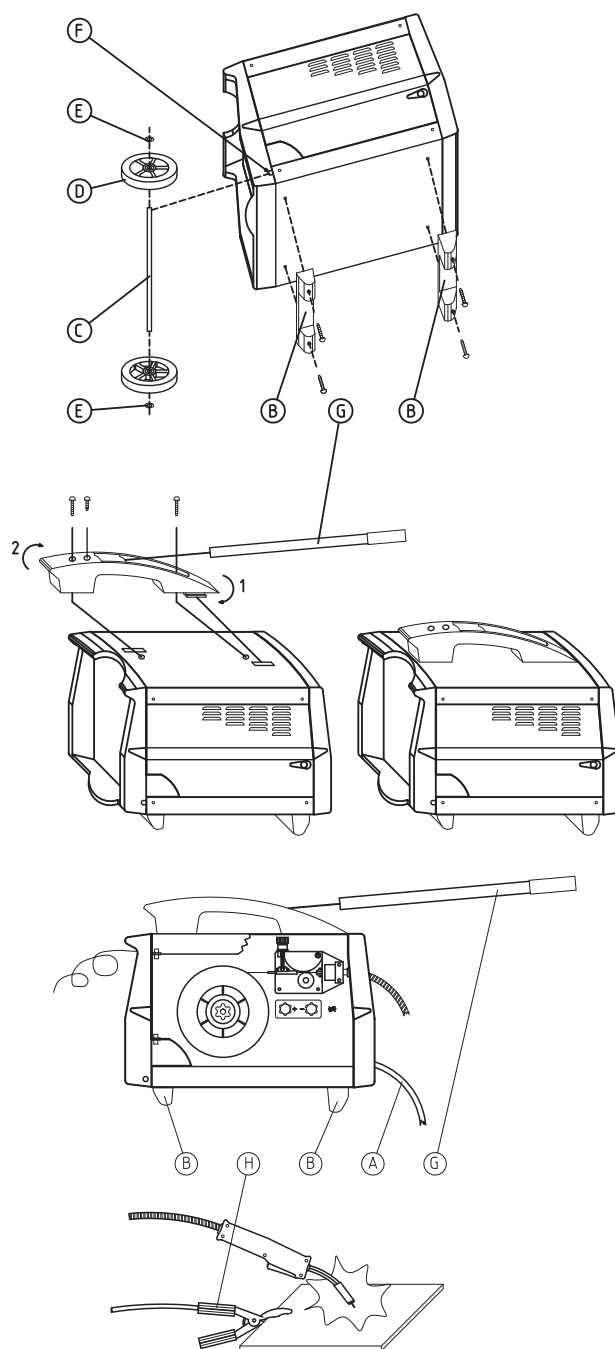

Fig. 1
- Lay the power source on one side and fix the two rubber feet (B) (front and back) to the base of the machine using the four screws of the kit. For models with wheels remove, using a tool, the film (F) that closes the axle's seat and then insert the axle (C) in the two holes and fix the wheels (D) on the two sides. Fasten the wheels in their position fixing slowly the washers (E) on the two sides of the axle. Bring the power source back to the upright position and insert the handle extension (G) in the front side of the handle fixing it with the screw of the kit (FIG. 1).
- In order to assemble the plastic handle follow the instructions of figure 1.